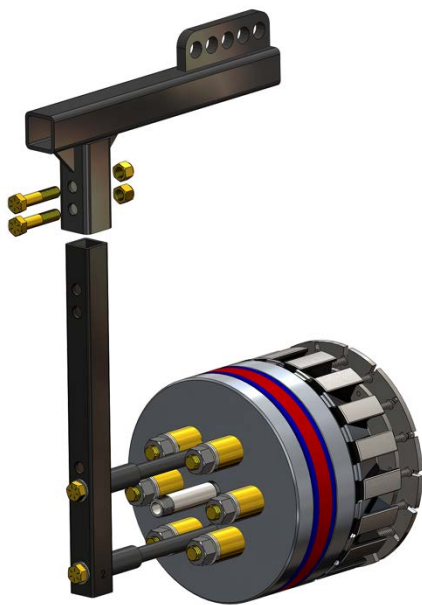

Figure 13: Aligning and Fastening Telescoping Lifting Attachment onto Universal Lifting Bar
- 9.3 After fastening the **Telescoping Lifting Attachment(25)** to the **Lifting Standoffs(26)**, slide it in to the **Universal Lifting Bar(24)** shorter square tubing. Upon insertion, align the two holes on both the **Telescoping Lifting Attachment(25)** and **Universal Lifting Bar(24)**. See Figure 13.
- 9.4 Fasten the **Telescoping Lifting Attachment(25)** with the provided **Lifting Device Bolts(27)** and **Nuts(29)**. See Figure 13.